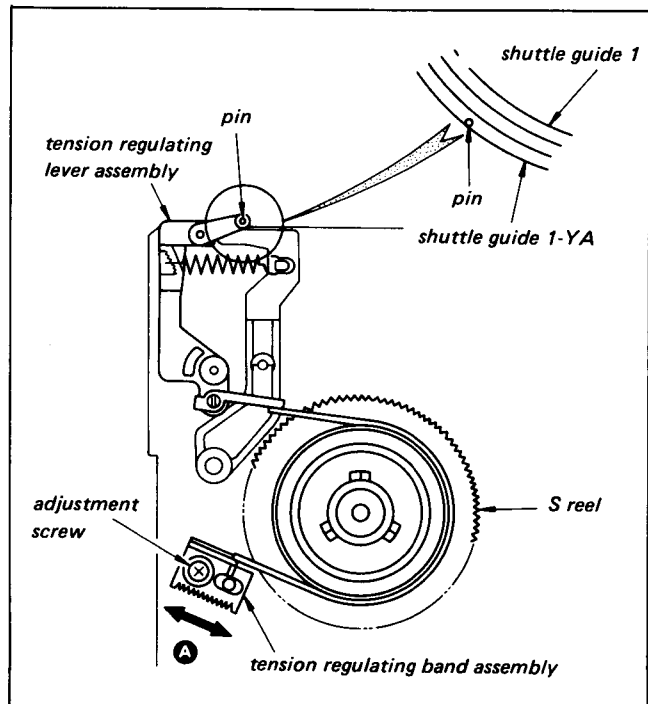

Fig. 3-30. Adjustment of the position of the tension regulating lever
- 2) Loosen the adjustment spring until the tape guide pin of the tension regulating lever assembly is positioned to the outside of the outer circumference of shuttle guide 1-YA, as shown in Fig. 3-30. Then adjust by moving the tension regulating band assembly in the direction of arrow **A**.